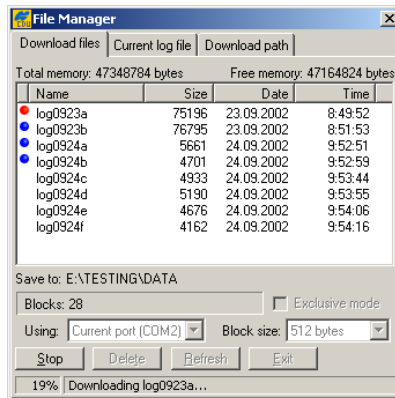

Figure 3-18. Download Files – Status Indicators
- Click **Download**. During the download, status indicators display next to each file (Figure 3-18).